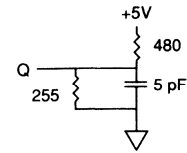

Fig. 2 OUTPUT LOAD EQUIVALENT
6. t_{HZCE} , t_{HZOE} and t_{HZWE} are specified with $CL = 5pF$ as in Fig. 2. Transition is measured $\pm 500mV$ from steady state voltage.